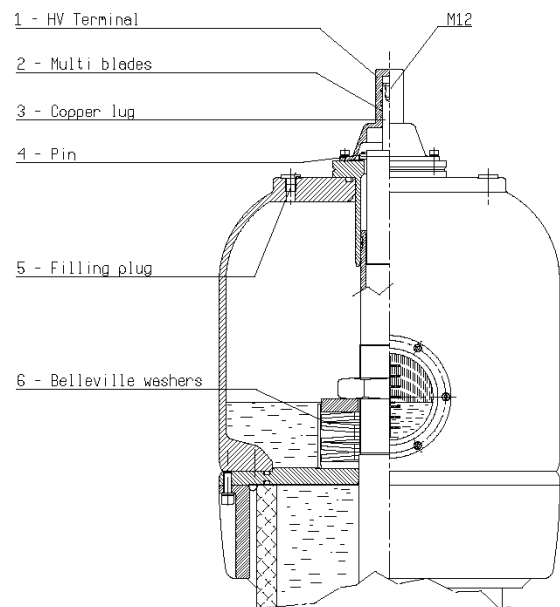
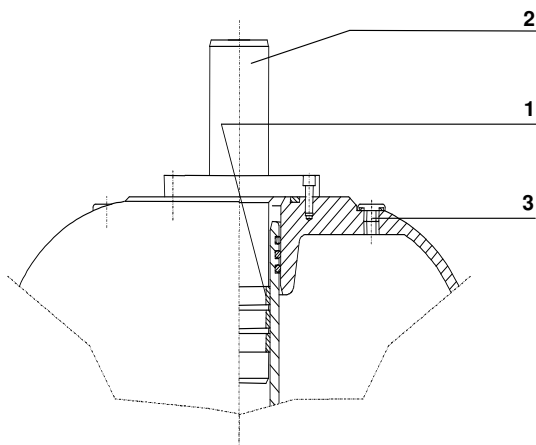

Fig. 9
Fig. 10
In this type of execution, the current is carried directly by the central bushing conductor; the passage of current from the bottom terminal and the tube and from the tube and the top bushing terminal (item 2 of fig. 10, 11, 12, 13, 14) is obtained by means of special inner lugs, equipped with multi-contact blades (item 1 – fig. 10, 11, 12, 13, 14).
Remove some bushing's oil or add transformer mineral oil accurately treated, through the head's plug placed in the upper part of the head, near the HV terminal (item 5 – fig. 9, item 3 – fig. 10) to have a visible oil level in the whole range of operating temperatures.